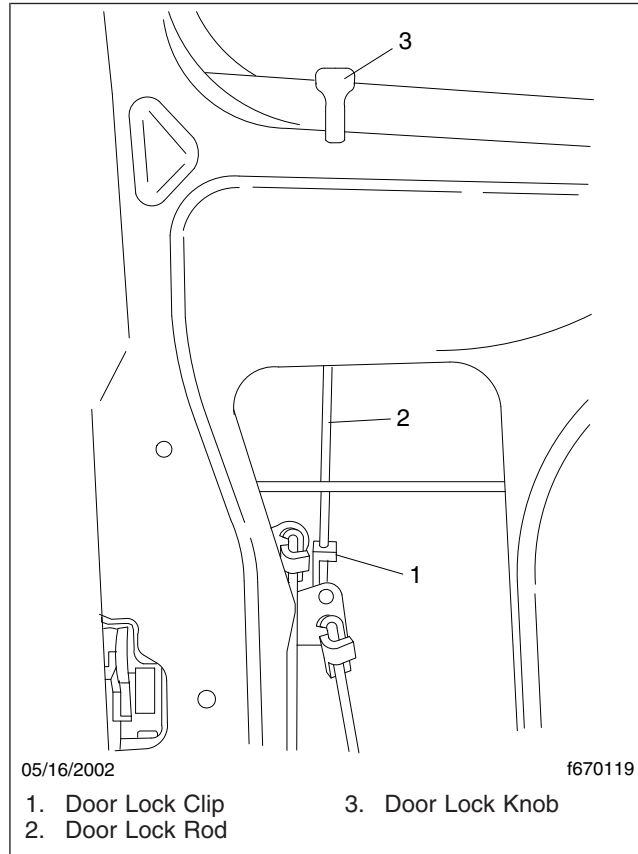

Fig. 12, Door Lock Mechanism
19. Disconnect the door lock rod by prying it loose from the lock clip. Lift the door lock knob to pull the rod up and out of the way. See Fig. 12.
3. Attach the door lock rod to the lock clip. See Fig. 12.